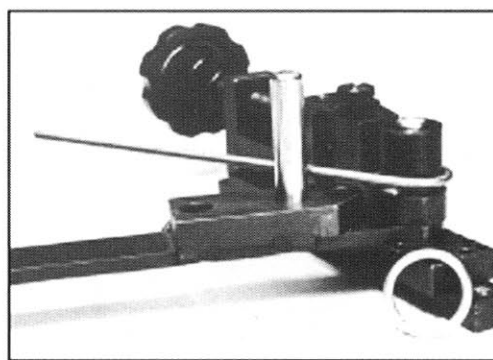

Figure 7
3. If you are doing coils, you may want to use a spacer for the repetitive bends to ensure that the spaces between the loops are even and regular as shown in Figure 7.